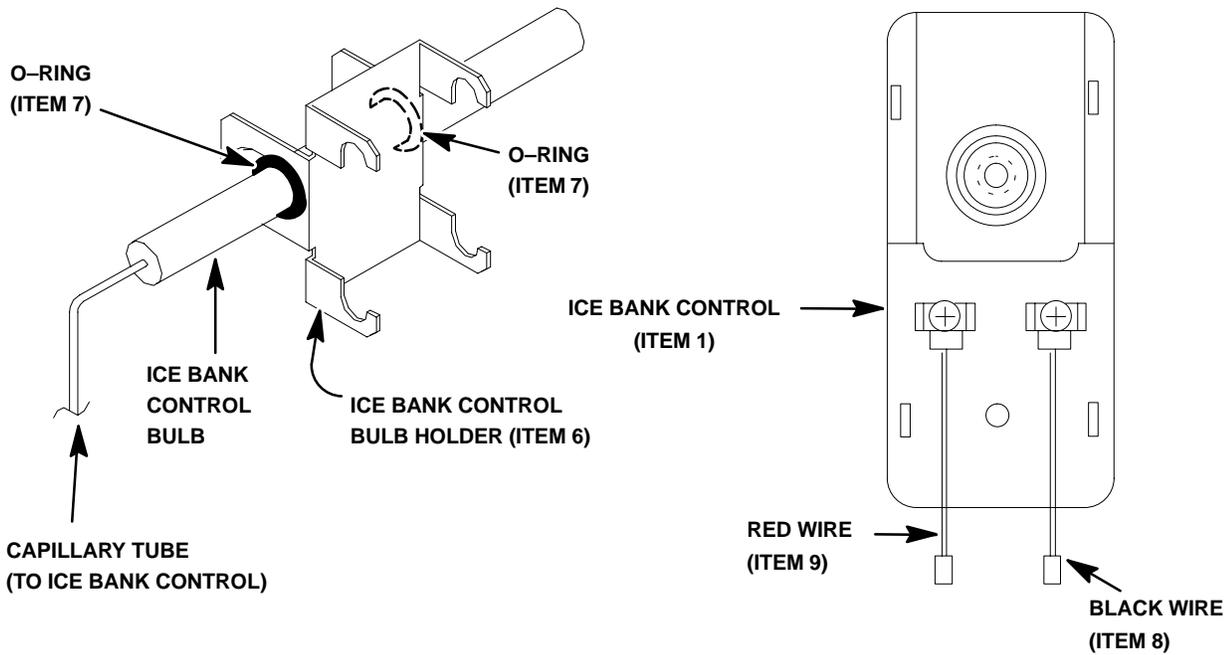
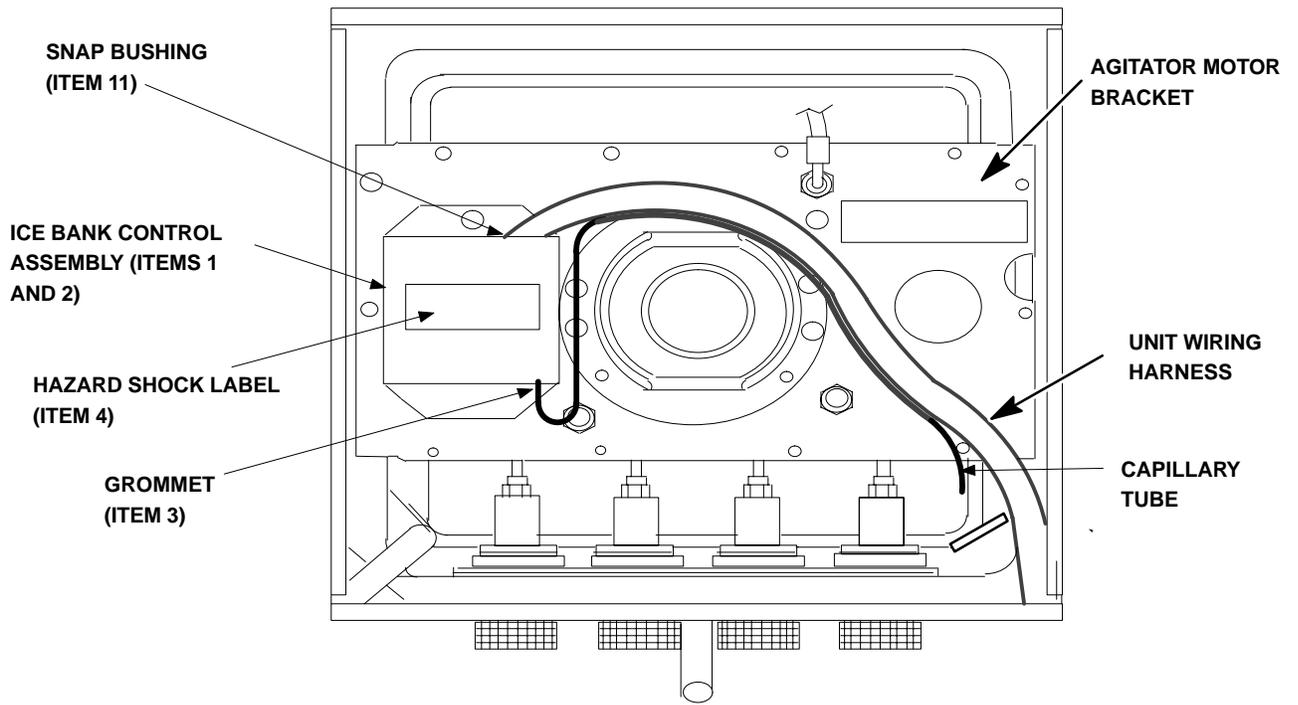
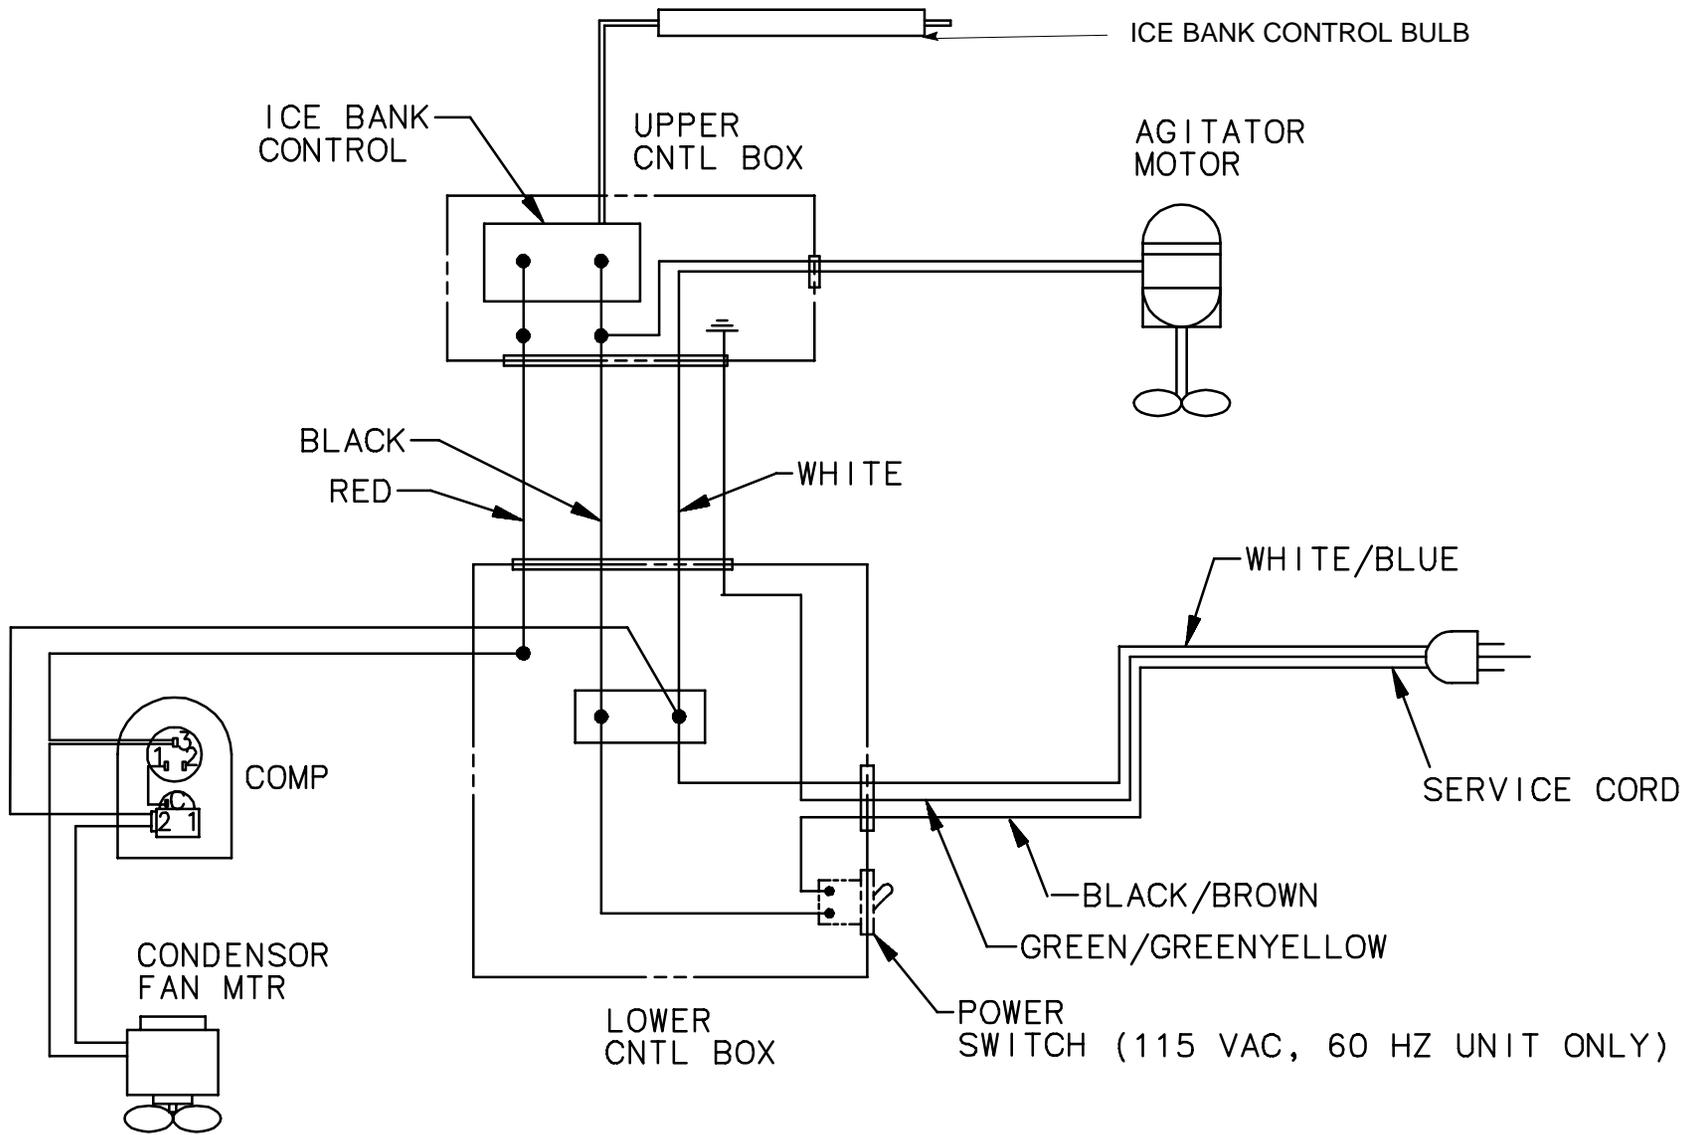

FIGURE 2. ICE BANK CONTROL
FIGURE 3. UNIT TOP VIEW
FIGURE 4. UNIT WIRING DIAGRAM
10. Disconnect product source product inlet lines from fittings on top of the agitator motor assembly bracket (see Figure 3).
18. Strip insulation from end of the heavy white wire inside the electrical control box, then install ELECTRICAL WIRE TERMINAL (item 13) on end of the wire.
2. Install O-Ring (item 7) on Ice Bank Control Bulb as shown in Figure 2).
4. Install O-Ring (item 7) on Ice Bank Control Bulb as shown in Figure 2 to secure control bulb in the holder.
5. Place product coils assembly back in position inside the Unit. *Make* sure ice bank control capillary tube is routed from ice bank control bulb up along right front side (facing front of Unit) of the Unit and on up to the ice bank control as shown in Figure 3.
10. Place the new ICE BANK CONTROL (item 1) in approximate mounting position on the agitator motor assembly bracket as shown in Figure 3.
11. Install SNAP BUSHING (item 11) in hole in ICE BANK CONTROL BOX (item 2).
12. Connect BLACK ELECTRICAL WIRE (item 8) and RED ELECTRICAL WIRE (item 9) to terminals on the ice bank control as shown in Figure 2.
13. Install ICE BANK CONTROL (item 1) inside the ICE BANK CONTROL BOX (item 2) and secure with SCREWS (item 5).
15. Install GROMMET (item 3) on the ice bank control capillary tube, then slide grommet up on the capillary tube and install in key-hole slot in ice bank control box.
17. Connect Unit wiring harness green ground wire to ground lug inside the control box. Secure ground connection with HEX NUT (item 14).
18. Complete remainder of wiring connections inside the ice bank control box by referring to Figure 4 Wiring Diagram.
19. Place ice bank control in position on the agitator motor assembly bracket. Secure ice bank control to the motor assembly bracket with SELF DRILLING SCREWS (item 10).
20. Very carefully, route capillary tube along Unit wiring harness as shown in Figure 3.
21. Using WIRE TIES (item 12), secure capillary tube to the Unit wiring harness as shown in Figure 3.
22. Install LABEL, HAZARD SHOCK (item 4) on ice bank control cover as shown in Figure 3.